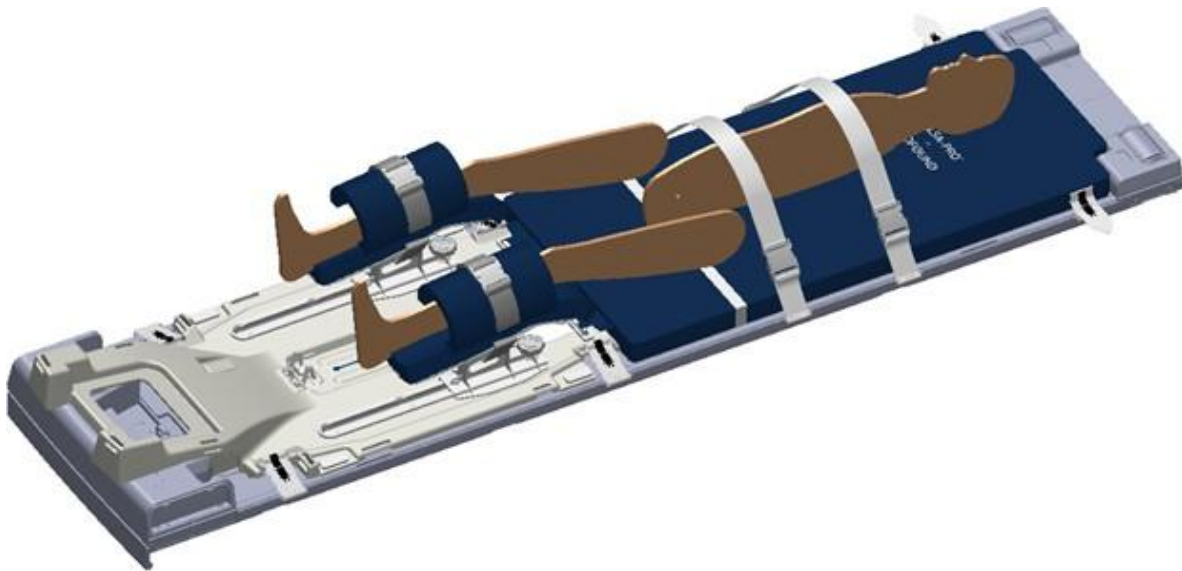

Figure 27: Securing the abdomen and arm straps
1. **MRI Technologist:** Fasten one abdomen arm-strap tightly over the lower abdomen under the patient's arms to minimize anterior-posterior breathing motion. Wrap the sheet over the abdomen and place the patient's hands on top. Fasten a second abdomen-arm strap over the arms to help fit the patient into the MRI bore (*Figure 27*, your configuration might not match exactly as shown).